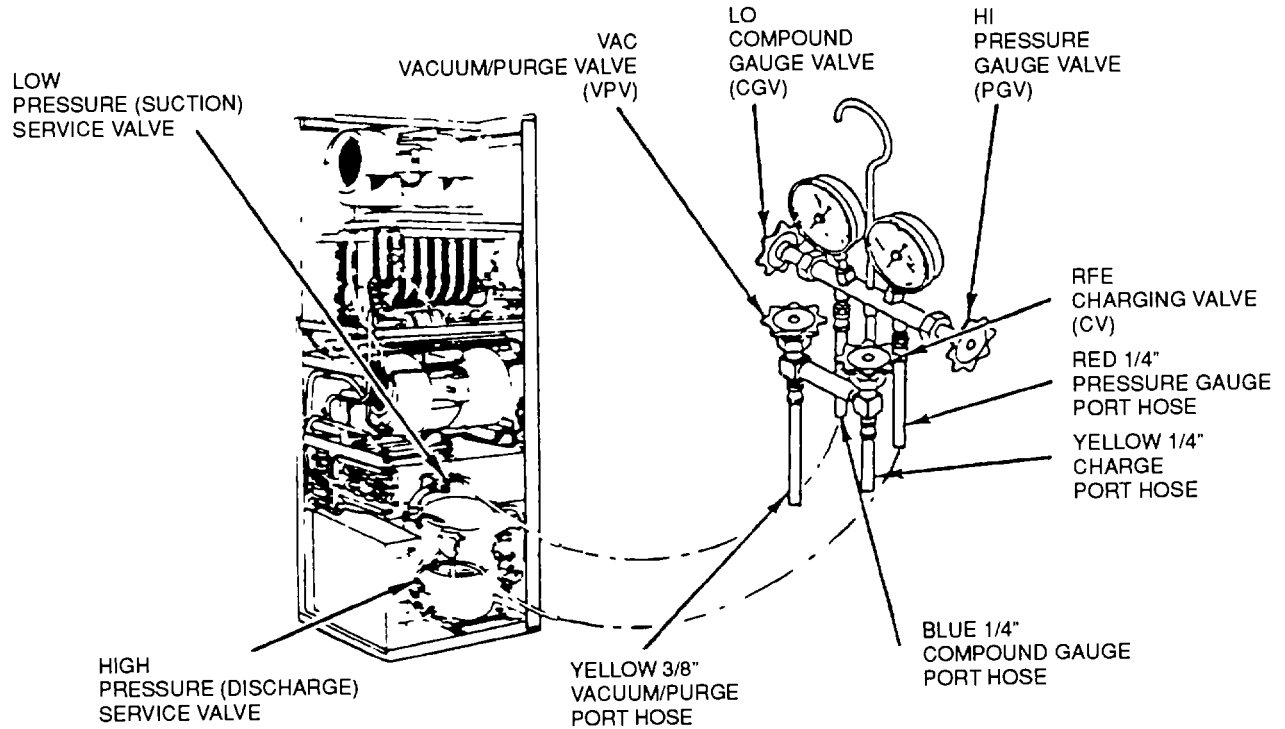

Figure 5-3. Service Manifold Installation
- a. Remove protective caps from compressor high and low pressure service valves (see fig 5-3).